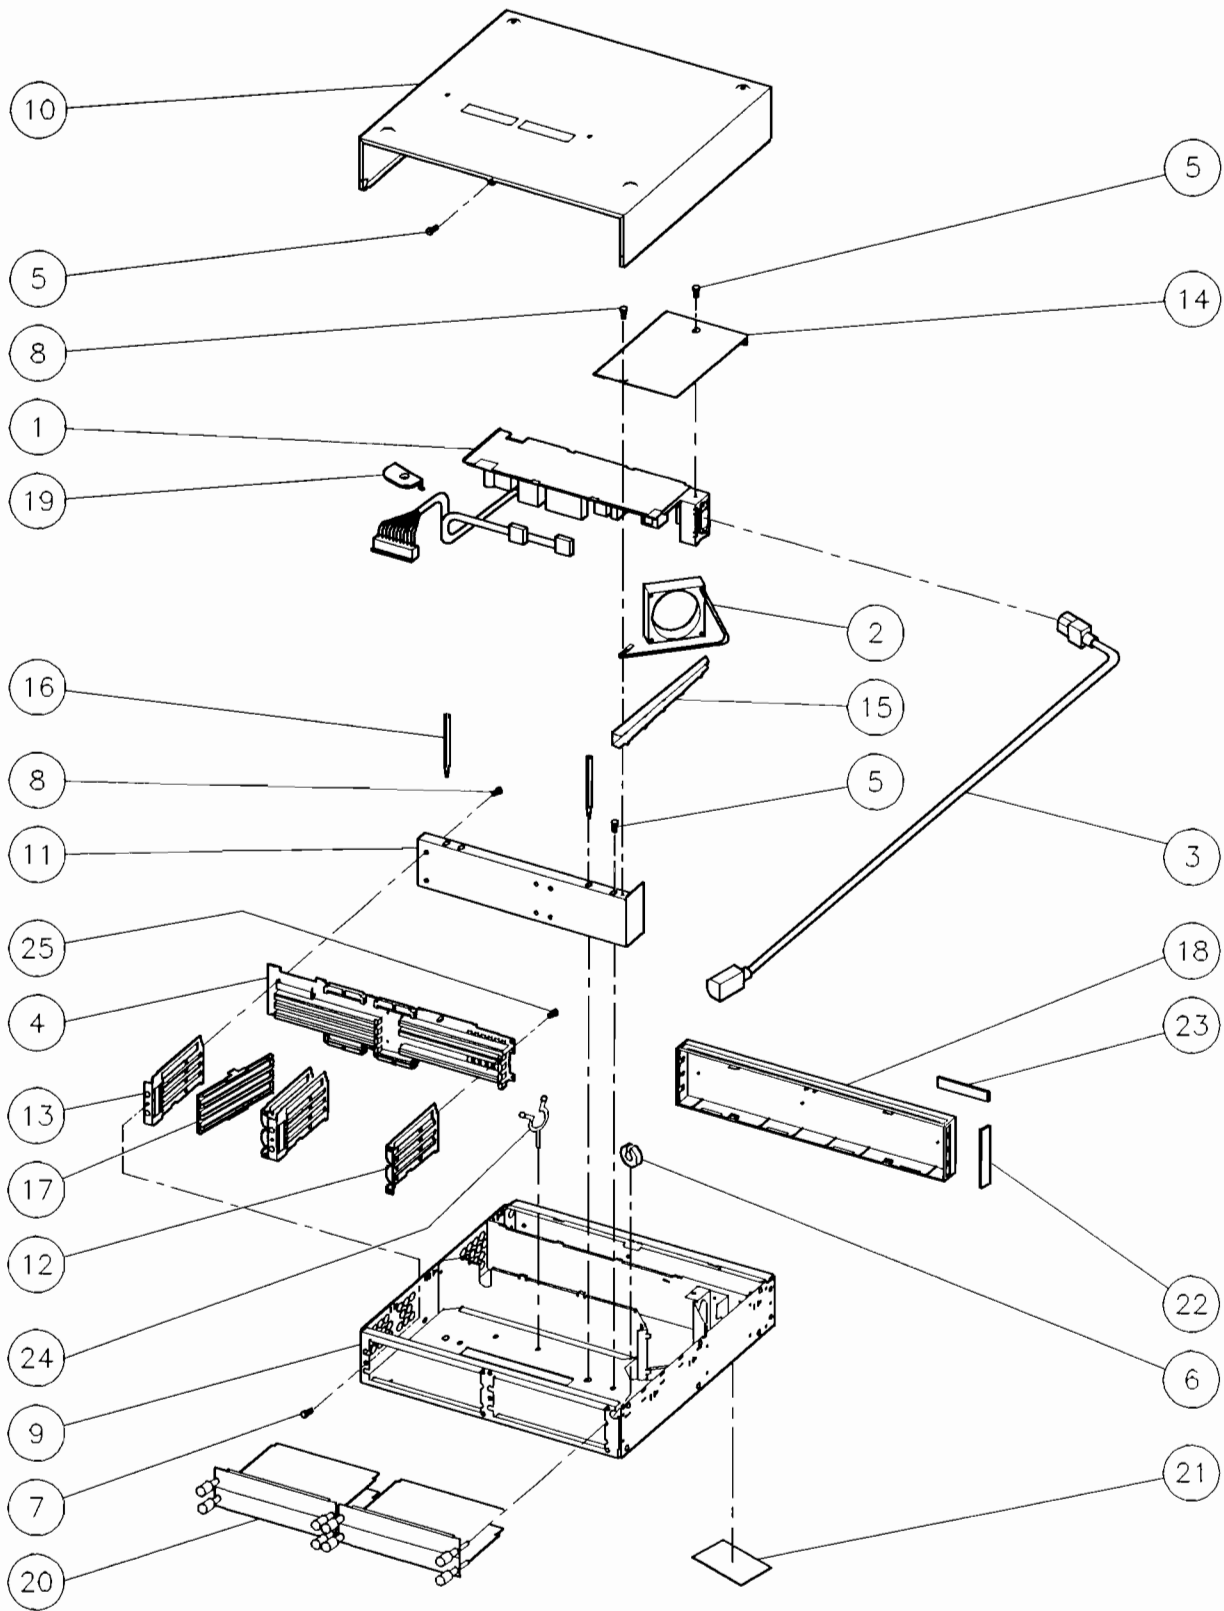
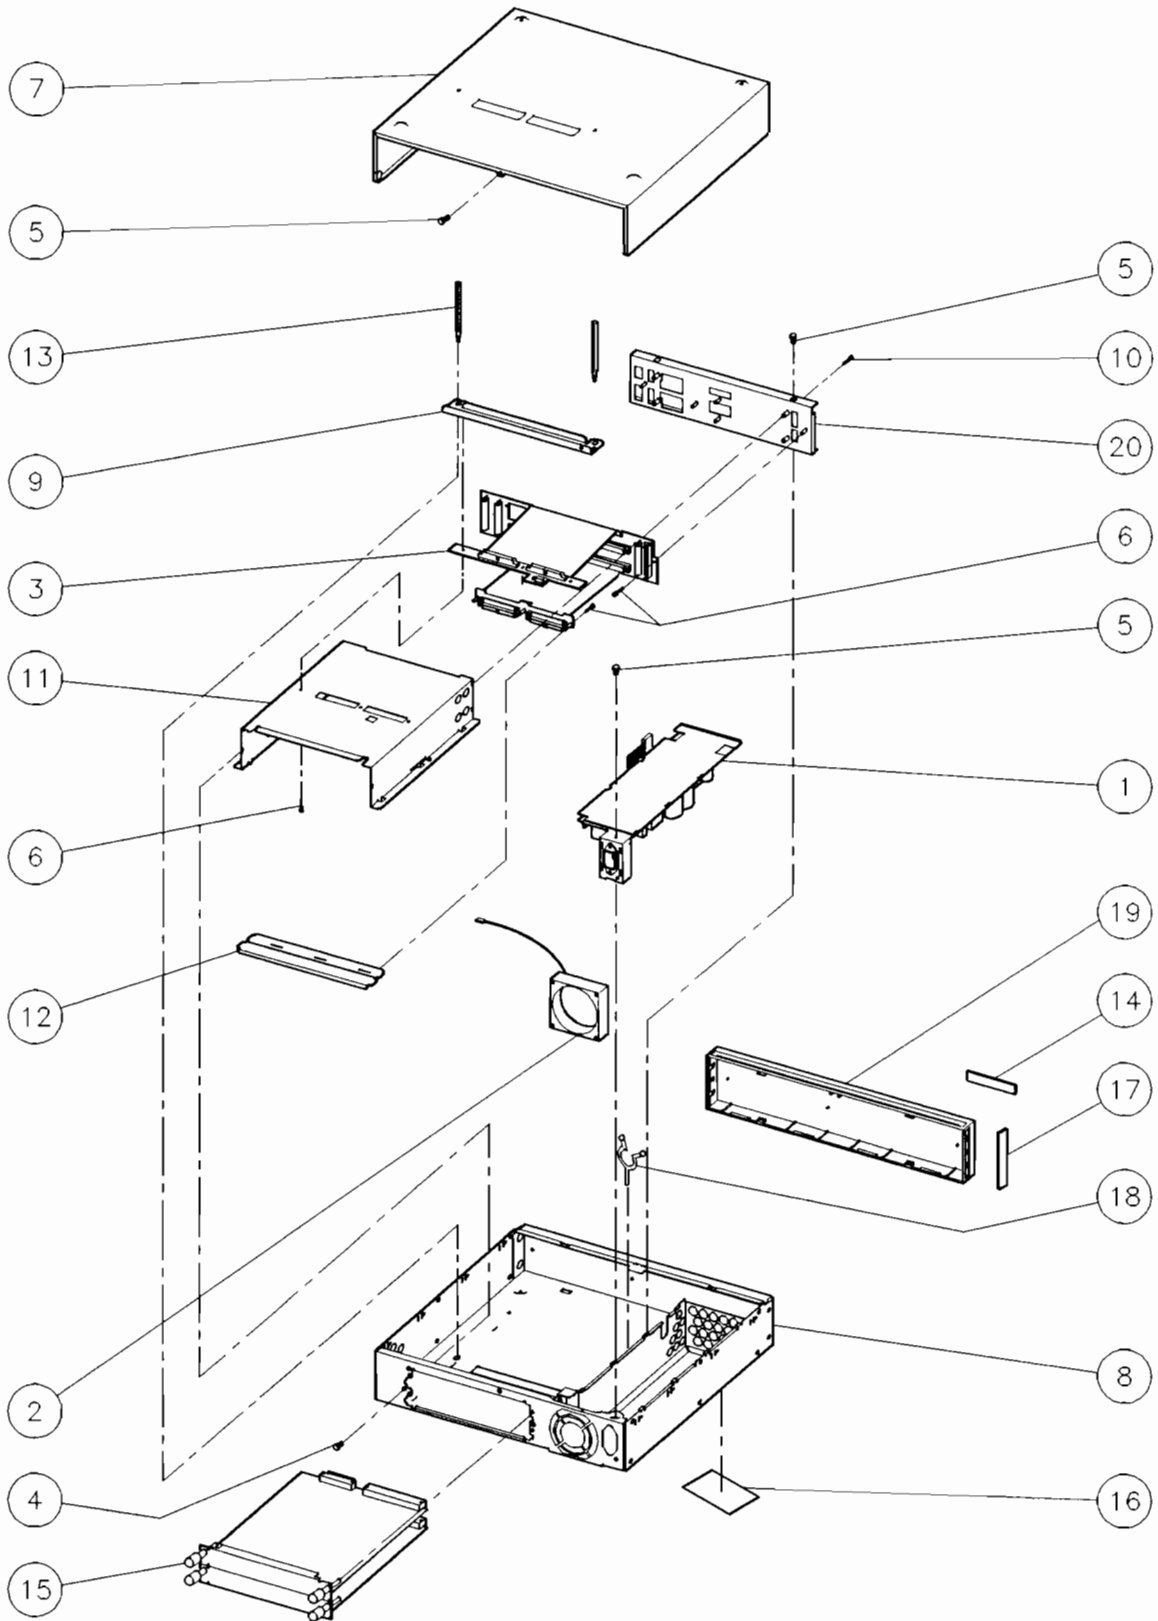

Figure 2-4. HP A2246A 4-Slot DIO-I Bus Expander Exploded View
Figure 2-5. HP A2247A 2-Slot DIO-II Bus Expander Exploded View
- Exploded view shown in Figure 2-4 and Figure 2-5.